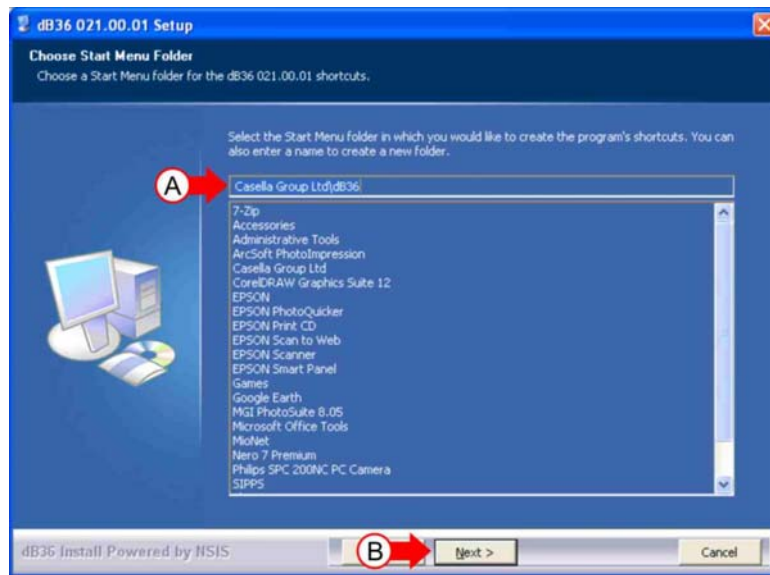

Figure 4 Start Menu Folder Screen
- The programs already installed on your PC Hard Disc Drive will be displayed. The dB36 Installer will offer a name for the Start Menu Folder (A) – Refer to Figure 4. If this is not acceptable delete it and enter a preferred name for the Start Menu Folder. When the Start Menu Folder name is satisfactory, press **Next** (B).